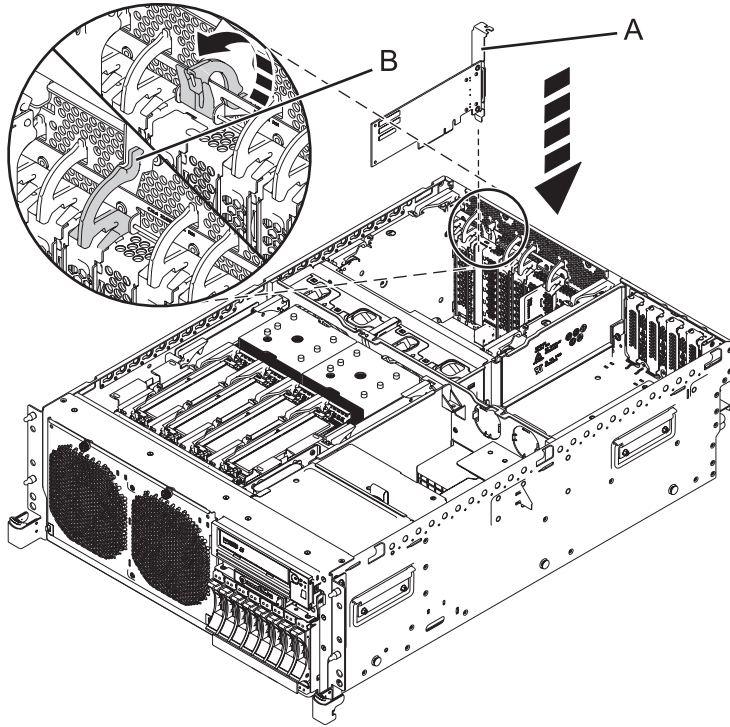

Figure 2. Installing a PCI adapter in a rack-mounted system unit
15. Carefully grasp the adapter by its top edge or tailstock (**A**), and align the adapter with the expansion slot and its connector on the system backplane, as shown in Figure 2.